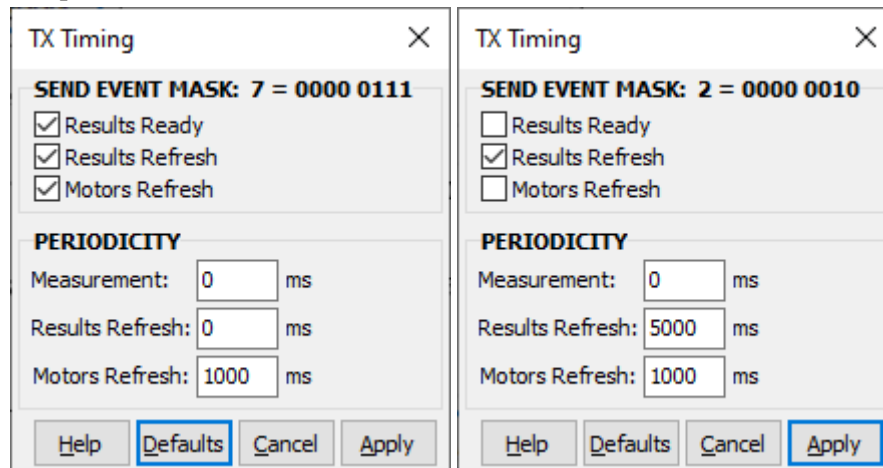

Figure 44. TX Timing window. Left: defaults, right: as in the example below.
Opens the **TX Timing** window (Figure 44) to define the cadence with which the measurement results will be updated and transmitted via the communication interface.
- Now, the **TX Timing** window should look as Figure 44 right. Click **Apply** button.